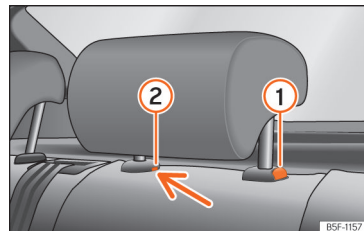

Fig. 78 Rear head restraint: removal.
- Press button »» Fig. 78 ①, while simultaneously pressing on the safety hole ② with a flat screwdriver a maximum of 5 mm wide, and remove the headrest.